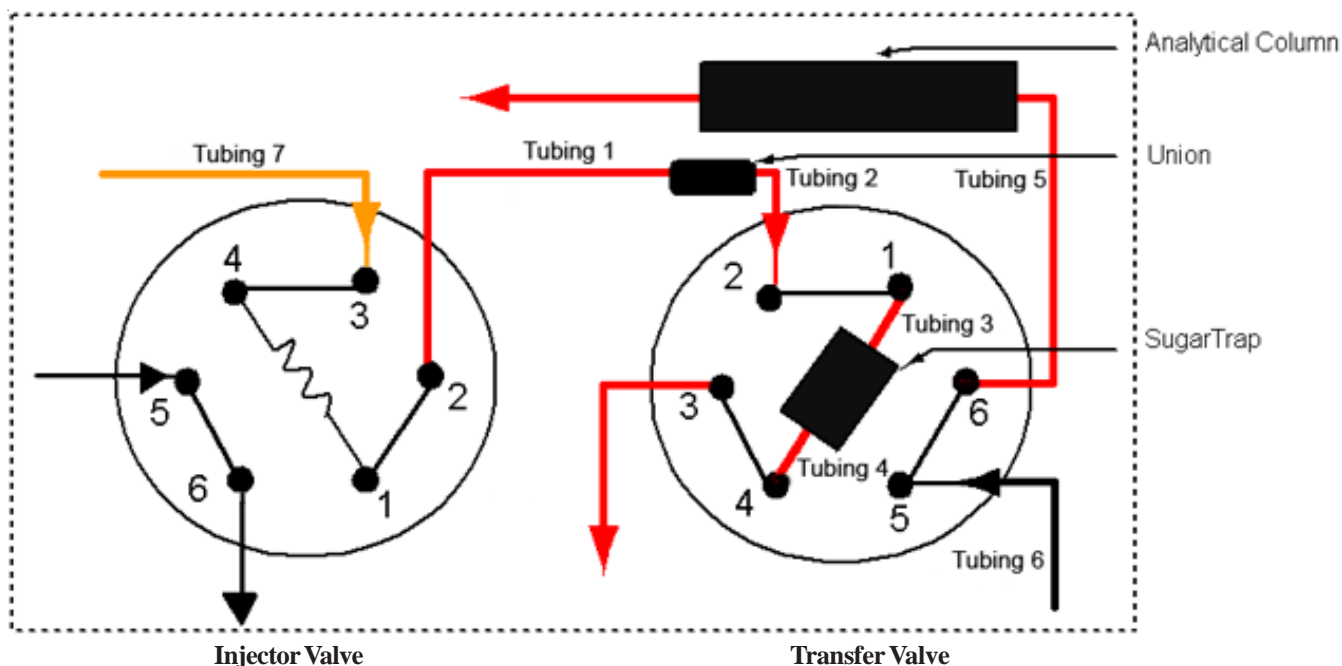

Figure 3
Confirm that the tubing connections in the injection valve are as follows (Figure 3): 25 μ L sample loop between ports 1 and 4, with the injection port and waste tubing at ports 5 and 6 respectively. Ports 3 and 2 should be open after the removal of red and black tubing as described in Section 2.4.
Connect the tubing T7 from the Transfer Pump outlet to port 3. This segment of tubing should be as short as possible to minimize the delay volume of the Transfer Fluid. Complete all tubing connections shown in Figure 3 but do not install the SugarTrap yet.
- A. Install the SugarTrap cartridge and make sure that all other connections that are shown in Figure 3 are in place.